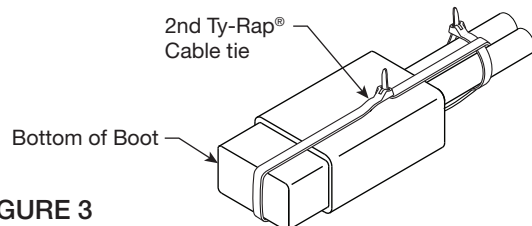

FIGURE 3
STEP 6 Place 2nd Ty-Rap® cable tie between the two cables on top of the 1st Ty-Rap® cable tie and bottom of boot (FIGURE 3).
STEP 7 Secure 1st Ty-Rap® cable tie tightly around cables and then secure 2nd cable tie, do not over tighten (FIGURE 3).